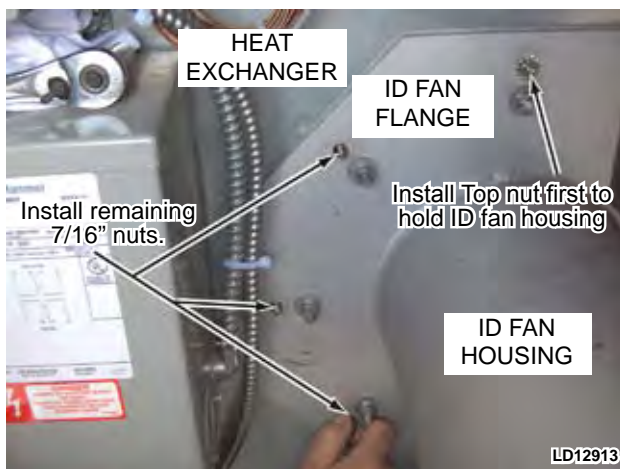

FIG. 5-136 – INSTALL ID FAN FLANGE ONTO HEAT EXCHANGER
12. Install ID fan flange onto threaded studs on heat exchanger. Install top 7/16" nut first to hold the ID fan housing in place while installing the remainder of the 7/16" nuts (see Fig. 5-136).